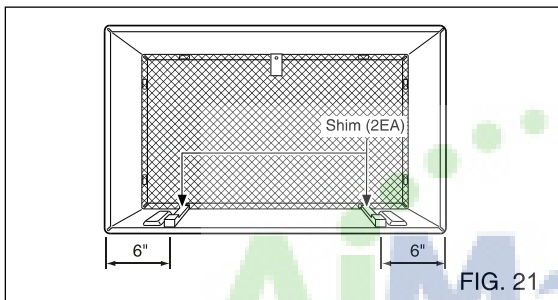

FIG. 21
- 7** To achieve rearward slope for unit draining, remove the backing from the  $11\frac{13}{16}$ " shim strips and attach them as shown below in Fig. 21. The higher portion of shim is to be placed in front of the rib on the base of wall sleeve.